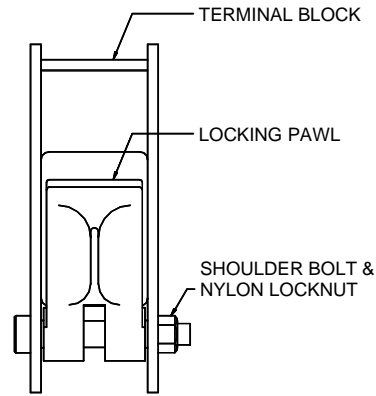

Fig 10
13. Ensure that both carriages are completely lowered. Install the locking pawl on the *Power Column* as shown in **Fig. 10**.